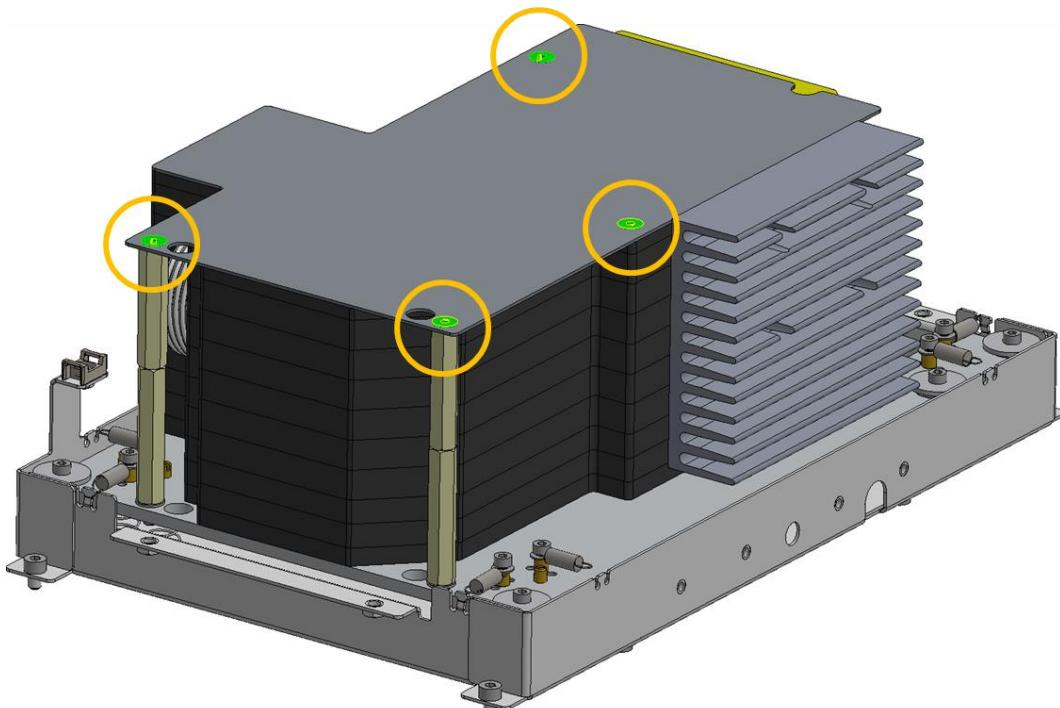

Figure 32. Example for location of insulation cover plate screws of the MU.
- a. Open 4 pcs of M4x10 mm screws of insulation cover plate. See Figure 32 and Figure 33 for examples of screw locations.
Same MU as is Figure 32.**